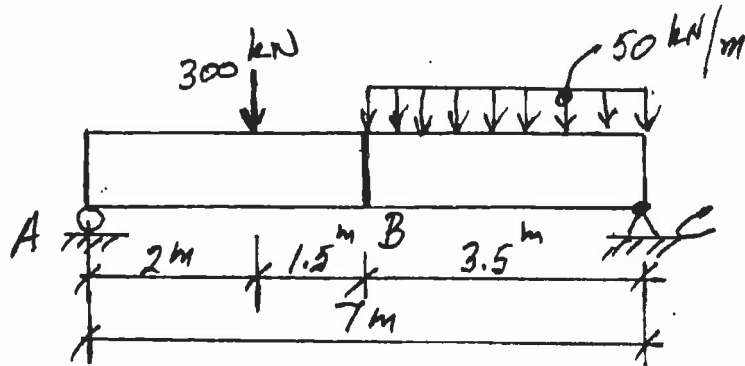

FIGURE A2
- A2. A simply-supported steel I-beam, W610 x 241, of G40.21 350W, is made up of two lengths, AB and BC, as shown in Figure A2. Design a welded rigid connection at B to transfer both flexure and shear at B for the given loads.